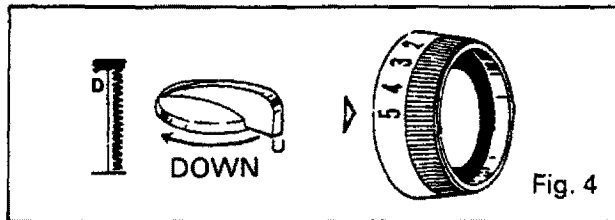

Fig. 4
4. Raise presser foot with needle in fabric and turn stitch width control to 5. Drop feed dogs and lower presser foot. Bartack about three stitches. See Fig. 4. Complete bartacking with needle on the left side of stitching. Point D. See Fig. 4.